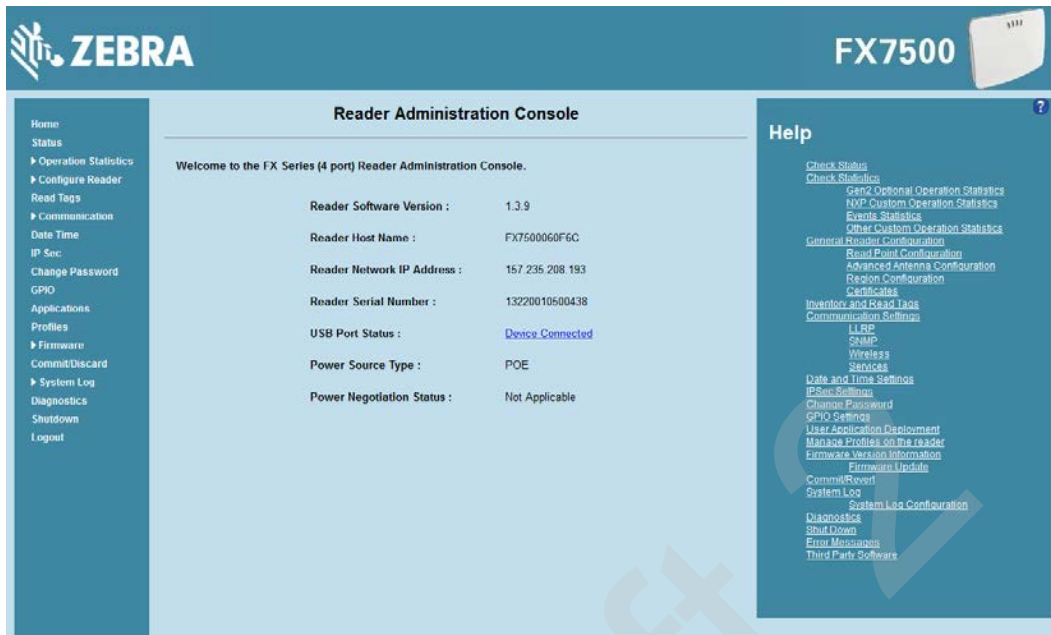

Figure D-2 Wi-Fi Dongle Connected
- To confirm that the Wi-Fi dongle is detected properly, log in to the reader Administrator Console. On the Home page ensure the **USB Port Status** displays **Device Connected**. Hover the mouse pointer over this link to display the WiFi dongle information shown in Figure D-2.